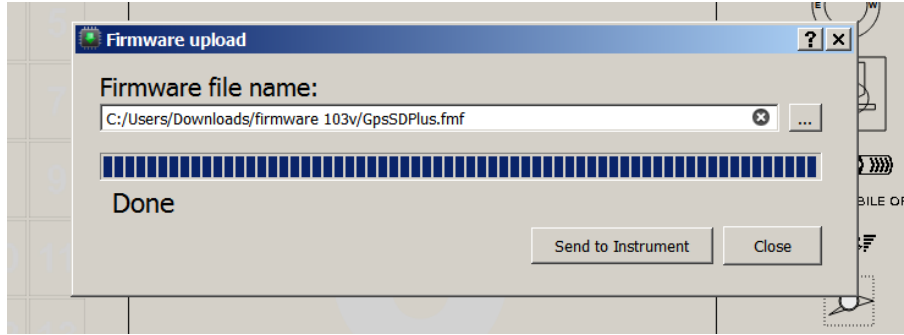

Figure 9.2: Firmware Update Done
6. When the process is finish the application shows a message saying *complete* (see Figure 9.2). Disconnect the USB cable and the NAV SD will start to work.